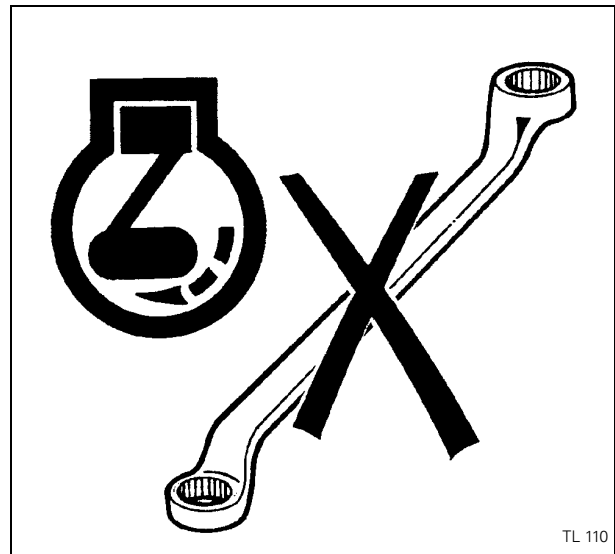

Fig. 11
- DO NOT service the tractor while the engine is running or hot, or if the tractor is in motion (Fig. 11).